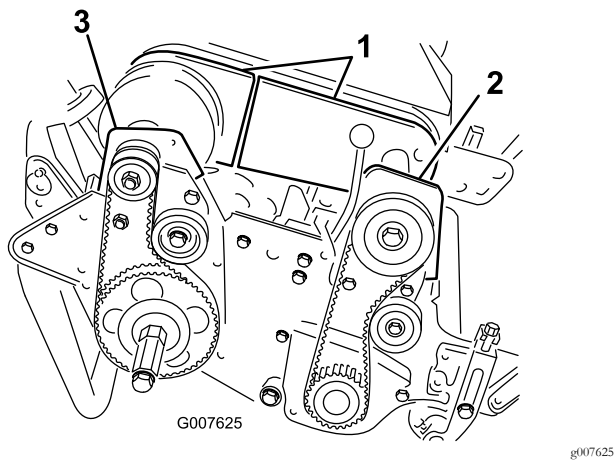

Figure 42
4. Remove the bolts securing the front and rear sections of the differential cover to the differential housing and slide the cover sections away to expose the belt (Figure 42).
6. Remove the 2 bolts and locknuts securing the front clutch housing to the side plate (Figure 42).
8. Remove the 2 bolts and locknuts securing the right rear bearing housing to the side plate (Figure 42).